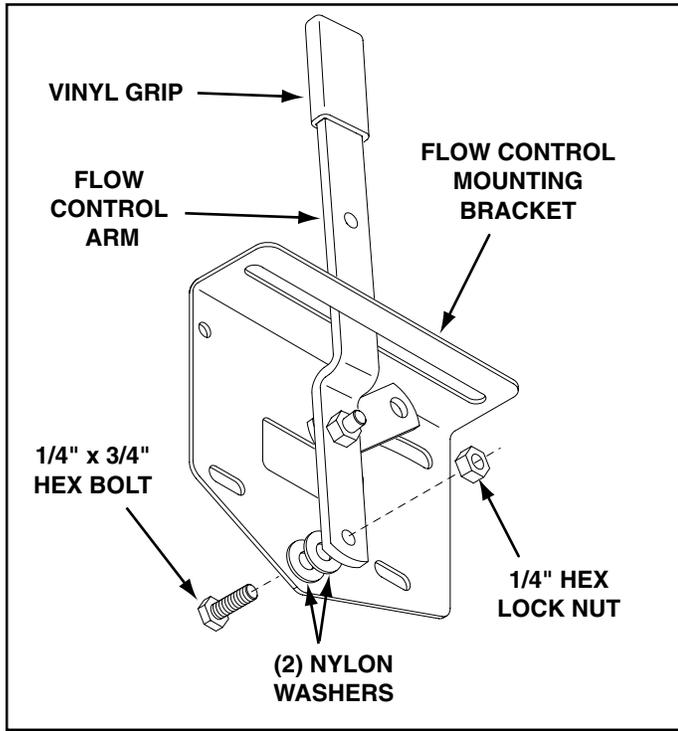

FIGURE 8
16. Assemble the flow control arm to the flow control mounting bracket using a 1/4" x 3/4" hex bolt, two nylon washers and a 1/4" hex lock nut as shown in figure 8. **Tighten** the nut until the flow control arm pivots with a slight resistance.
17. Assemble the vinyl grip. See figure 8.